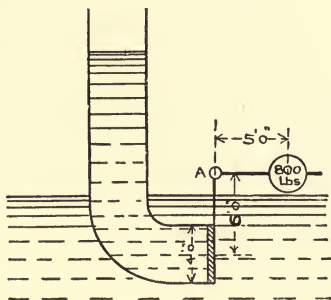

Fig 2
4. The arrangement of a flap-valve closing the delivery end of a pipe is shewn in Fig. 2. Calculate the difference of water level which can be maintained by this arrangement.